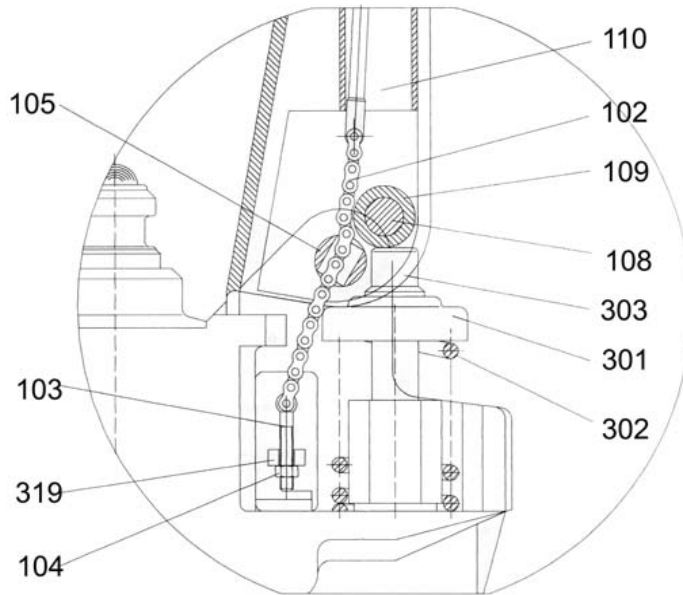

Fig. 3
2.2 Set the Control Handle (117S) to the '**LOWER**' position, then pass the Adjusting Nut (104S), Adjusting Bolt (103S) and Chain (102S) through the hole of the axle (105S) by hand (See Fig. 3).